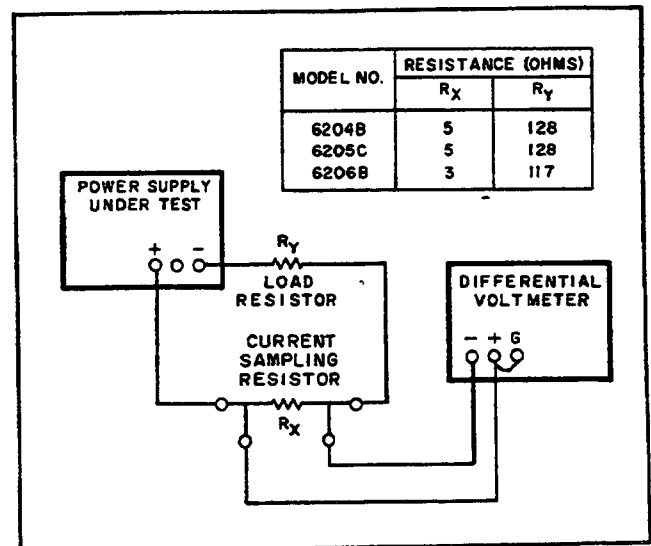

Figure 5-4. Output Current Test Setup
a. Connect test setup shown in Figure 5-4.
5-36 The maximum load ratings listed in Figure 5-4 must be observed in order to preserve the mercury-wetted relay contacts. Switching of larger load currents can be accomplished with mercury pool relays; with this technique fast rise times can still be obtained, but the large inertia of mercury pool relays limits the maximum repetition rate of load switching and makes the clear display of the transient recovery characteristic on an oscilloscope more difficult.